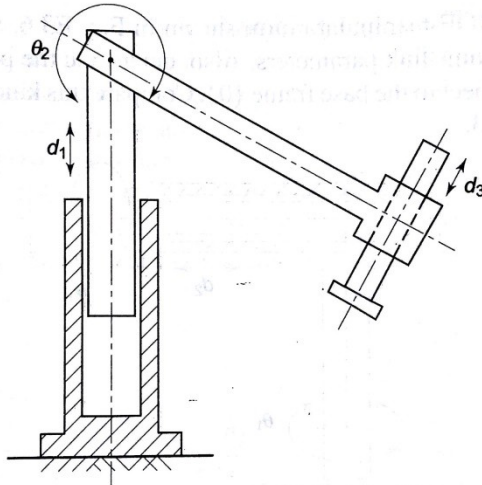

Fig.1: 3-DOF PRP manipulator arm
9. For the 3-DOF robotic manipulator arm shown in Fig.1, assign frames to each of the links and determine the joint-link parameters and, obtain the direct kinematic model.